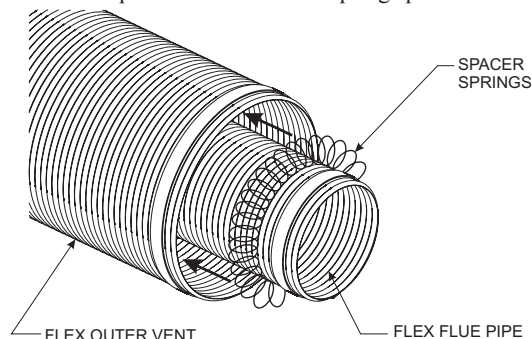
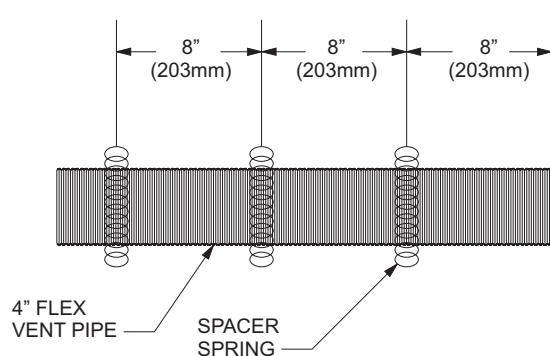

Figure 40
Figure 41
2. Check to see that the vent spacer springs are located around the flue vent at 8" and 12" intervals along its length. **See Figure 40.** If not, stretch the spacer springs to about 15" long and wrap them around the flue, then interlock the ends of each spring about 2". **See Figure 41.** Maintain equal distance between spring spacers.